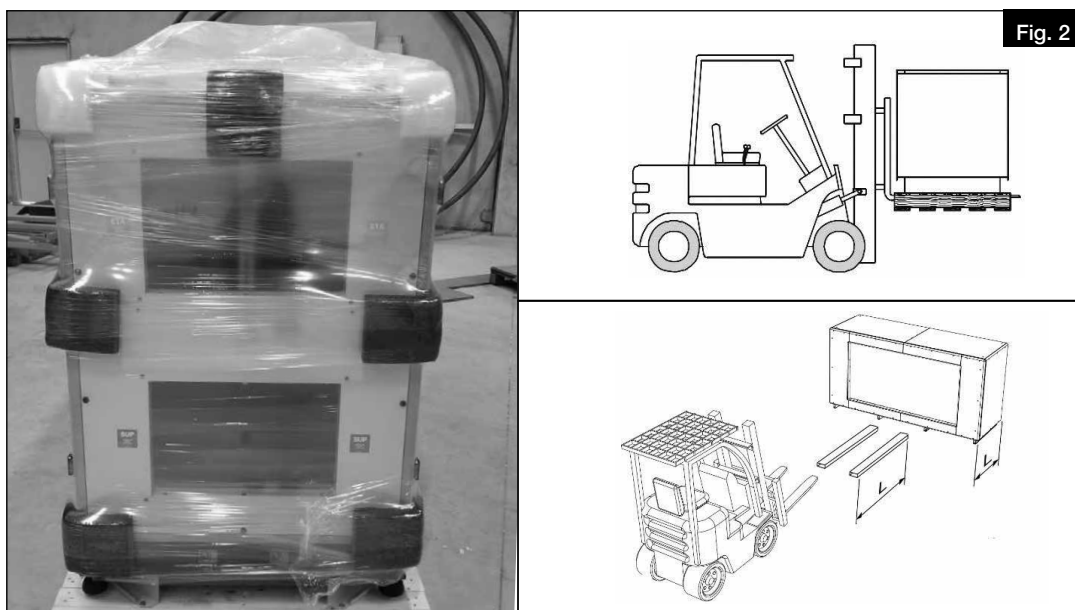

Fig. 2
- Before transporting the unit, please ensure that the forks of forklift truck are long enough to lift more than the entire underside of the unit (see Fig. 2).